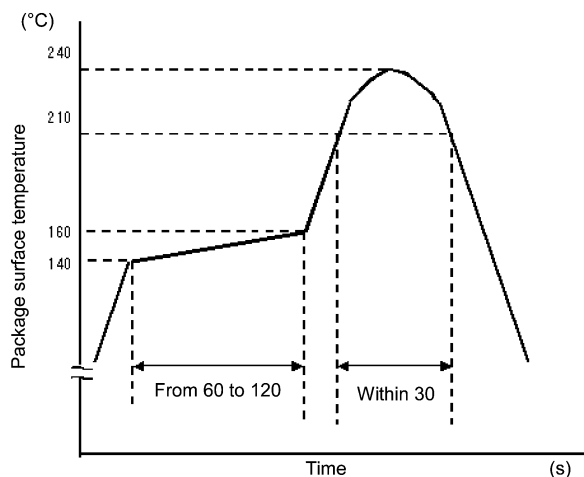

Fig. 13.1.1 An Example of A Temperature Profile when Sn-Pb Eutectic Solder Is Used
- When using soldering reflow (See Fig. 13.1.1 and 13.1.2)